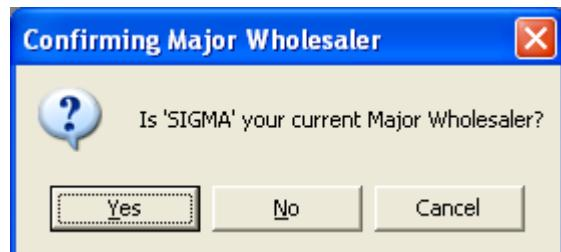

Figure 162
2. The 'Checking Major Wholesaler' screen will appear (as shown in Figure 162). If the wholesaler shown is your major one, select the 'Yes' button.